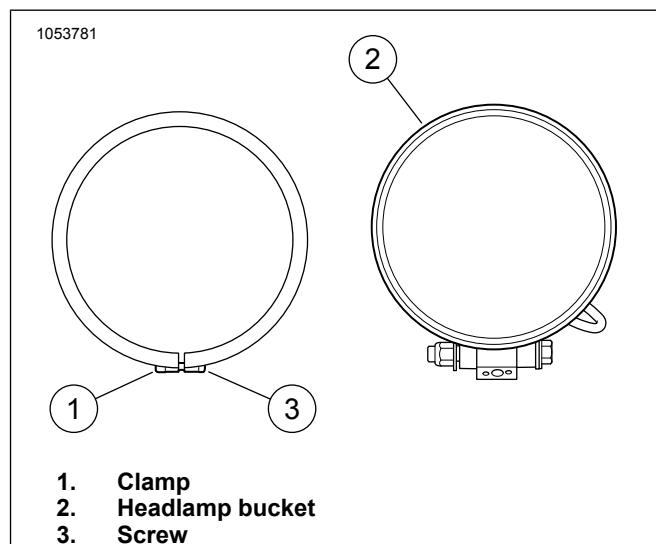

Figure 1. Trim Ring
2. See Figure 1 Position the trim ring so clamp (1) feature is at the bottom. Place top of trim ring over the tabs at the top of the headlamp bucket (2).